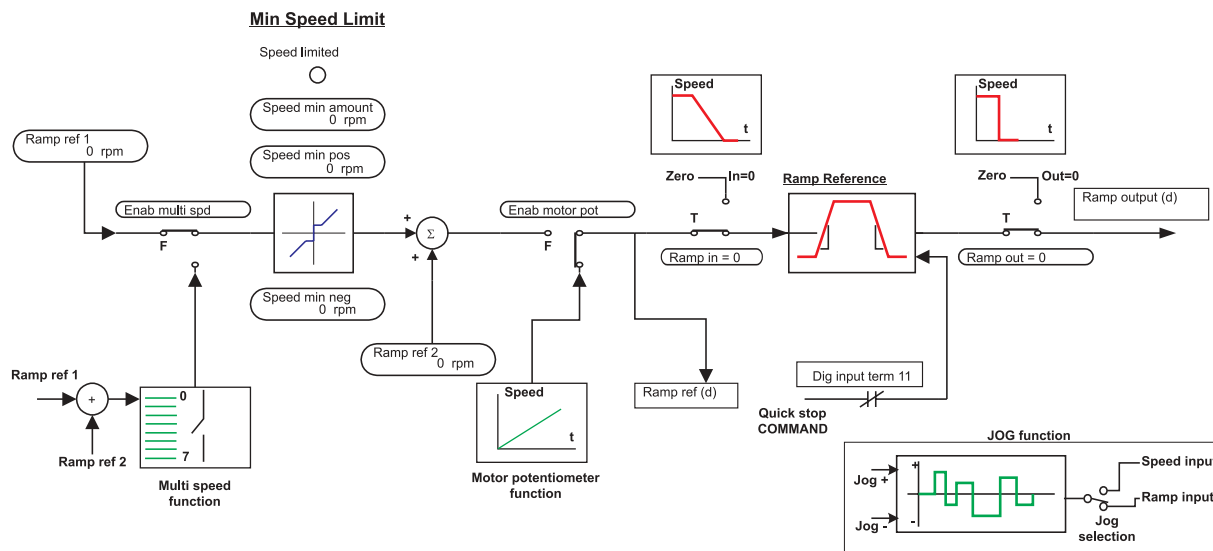

Figure 6.4.1.1: Ramp references
The total Ramp reference value **Ramp ref** consists of the signed addition of **Ramp ref 1** and **Ramp ref 2** (see Figure 6.4.1.1).